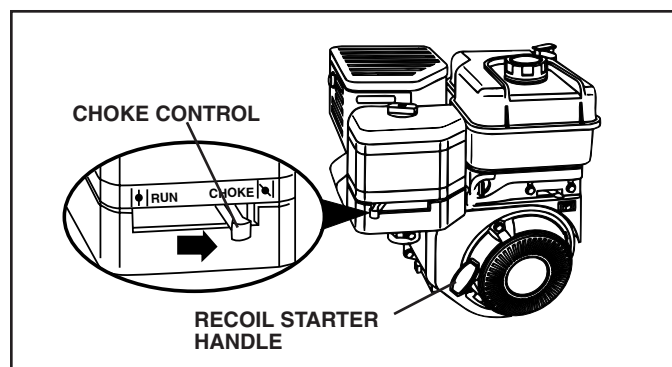

FIG. 14
TO START ENGINE (See Fig. 14)
- You will find tilling much easier if you leave a row untilled between passes. Then go back between tilled rows. (See Fig. 14) There are two reasons for doing this. First, wide turns are much easier to negotiate than about-faces. Second, the tiller won't be pulling itself, and you, toward the row next to it.